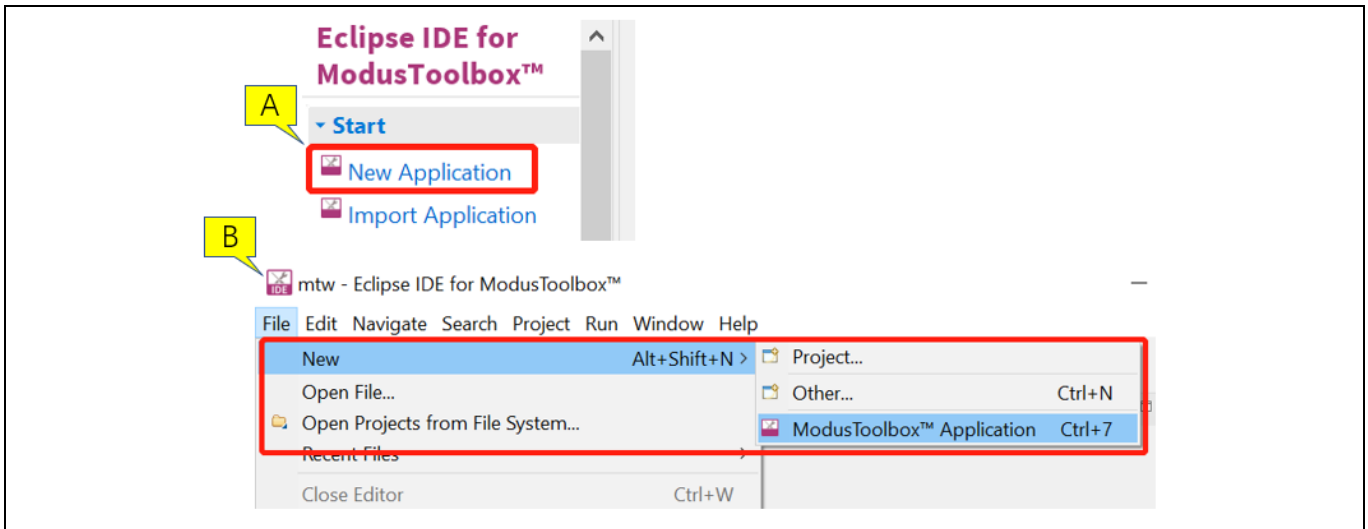

Figure 7 Create a New ModusToolbox™ Application
- b) Alternatively, you can choose **File > New > ModusToolbox Application**, as Figure 7 shows.